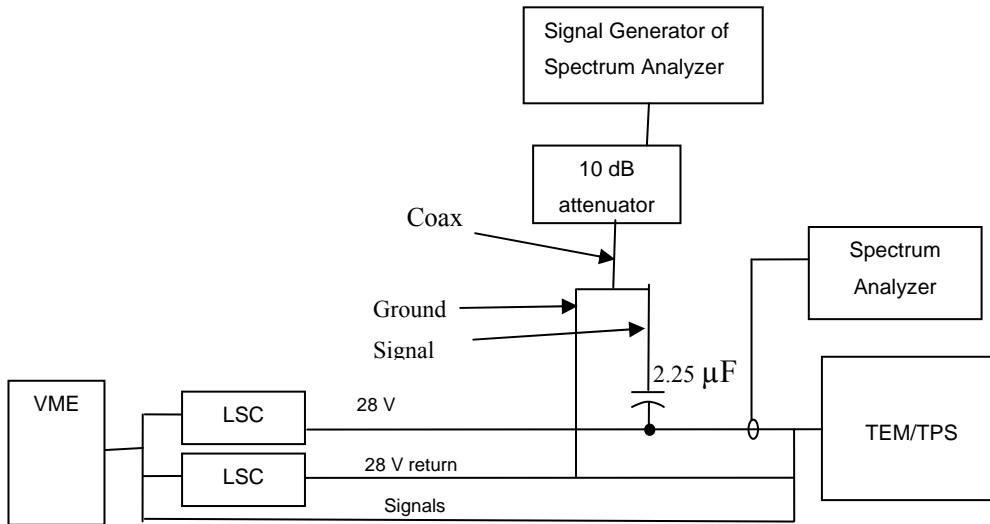

Figure 4-9: CS102 Test Set-Up for 150 kHz to 10 MHz
- 1) Set up the EMI test equipment and the TEM/TPS per Figure 4-9: CS102 Test Set-Up for 150 kHz to 10 MHz.